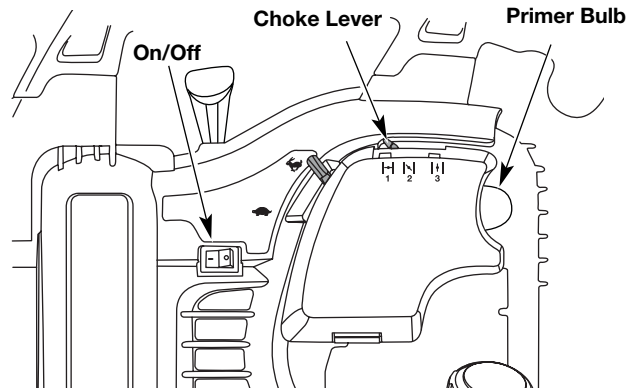

Fig. 14
3. Fully press and release the primer bulb 10 times, slowly. Some amount of **fuel should be visible in the primer bulb and fuel lines** (Fig. 14). If you can't see fuel in the bulb, press and release the bulb as many times as it takes before you can see fuel in it.
4. Place the choke lever in **Position 1** (Fig. 14).
6. Place the choke lever in **Position 2** (Fig. 14).
9. Place the choke lever in **Position 3** (Fig. 14). The unit is ready for use.
2. Press and hold On/Off Stop Control in the OFF (O) position until engine comes to a complete stop (Fig. 14)